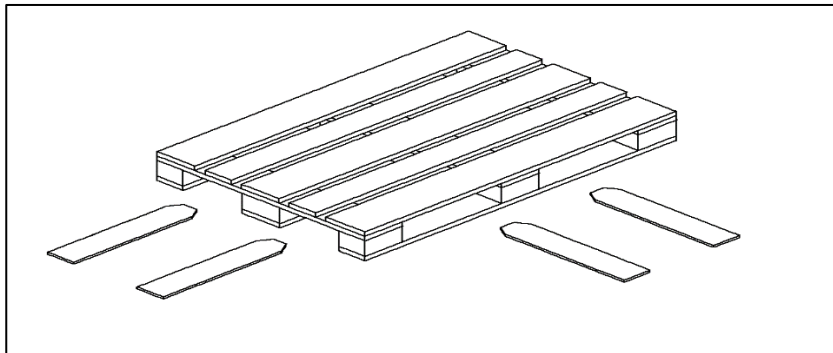

Figure 4: Picking up the load carrier
- It must be possible for a forklift truck to pick up the load carrier via the short or long side (see Figure 4). To this end, the substructure of the load carrier must be at least 150 mm high.